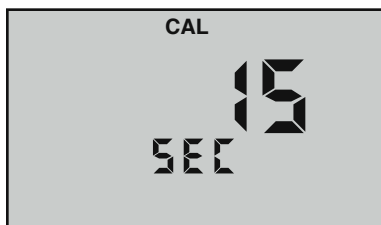

Figure 25
4. Press  to initiate. **CAL** will be displayed along with the “**15 SEC**” (see Figure 25).